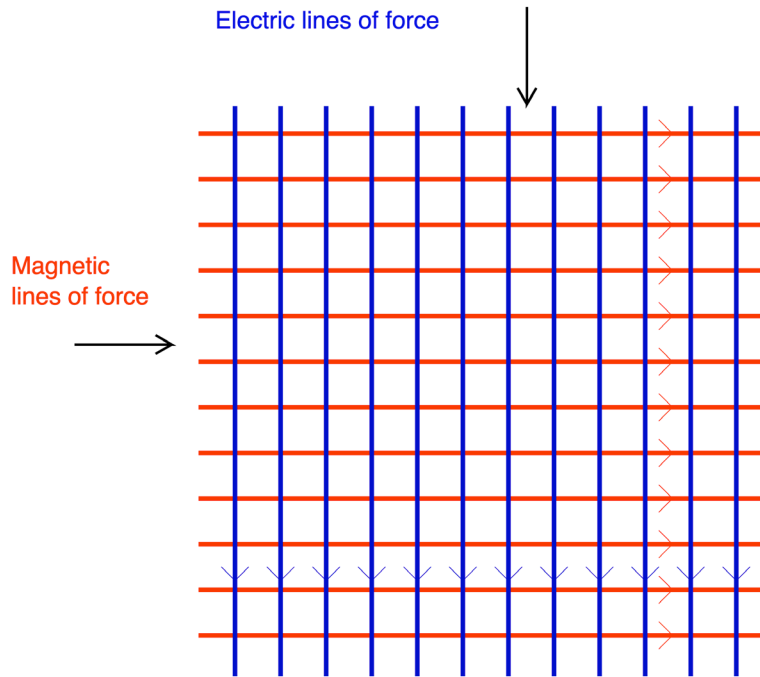

Figure 7-xi: Magnetic lines of force perpendicular to electric lines of force in a vertically polarised electromagnetic field. [EI9ILB]
The electric (E) field determines the POLARISATION of the electromagnetic wave. An electromagnetic wave is said to be polarised in the direction of the electric lines of force relative to the surface of the earth. In Figure 7-xi the wave is vertically polarised.